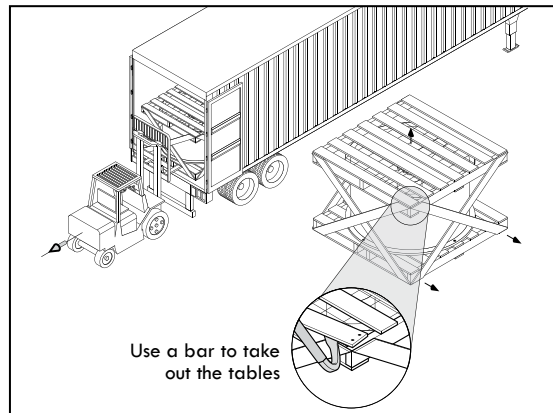

Figure AP-3: Lifting the fan duct with a forklift
- C. Once the wooden skid is on the edge, proceed to lift and take out the fan duct. See Figure AP-3.